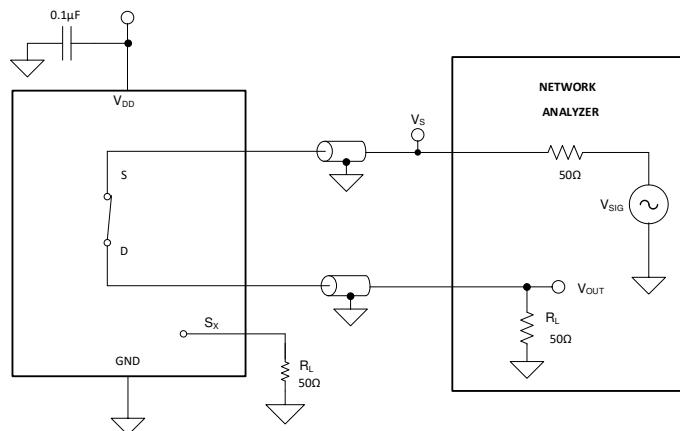

Figure 7-10. Bandwidth Measurement Setup
Bandwidth is defined as the range of frequencies that are attenuated by less than 3dB when the input is applied to the source pin (S_x) of an on-channel, and the output is measured at the drain pin (D) of the device. Figure 7-10 shows the setup used to measure bandwidth.